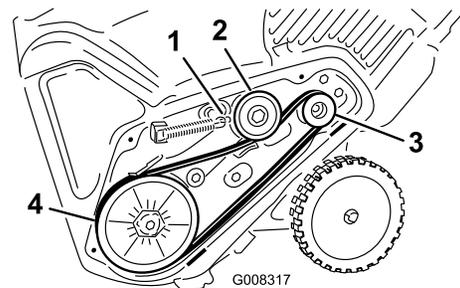

Figure 37
- Install the new drive belt, routing it as shown in Figure 37.
8. Install the brake spring onto the idler arm (Figure 37).